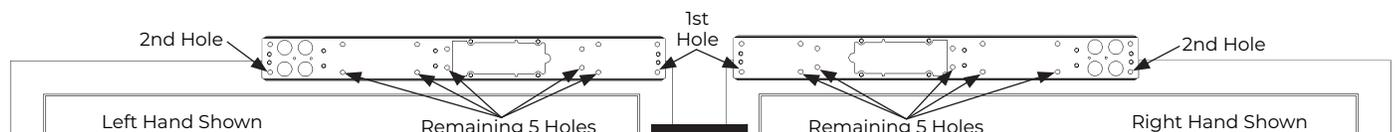

Figure 3
4. Ensure backplate is aligned parallel with the door frame. Using the backplate as guide, mark and drill second mounting hole. (Figure 3)
6. Using the backplate as a guide, drill and tap remaining five (5) holes in frame. (Figure 3)
7. Secure with additional five (5) screws and securely tighten all screws.
8. **For concealed wiring:** Using the backplate as a guide, mark and pre-drill two (2) conduit holes with the 3/16" drill. Then use the Ø7/8" hole saw or equivalent to drill two (2) conduit holes.